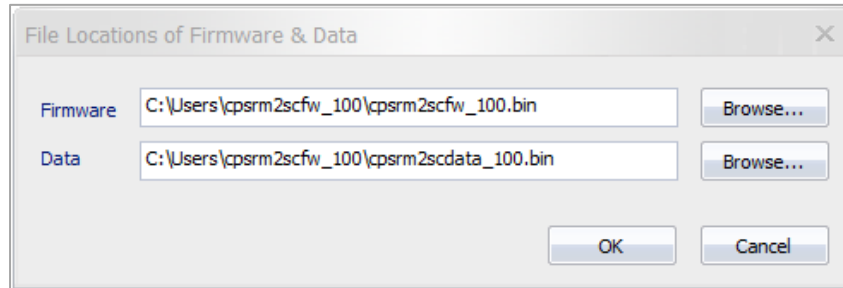

Figure 6. The File Locations of Firmware & Data window.
6. Select the Firmware and Data files and click “OK” to implement firmware upgrade, as shown in Figure 6.